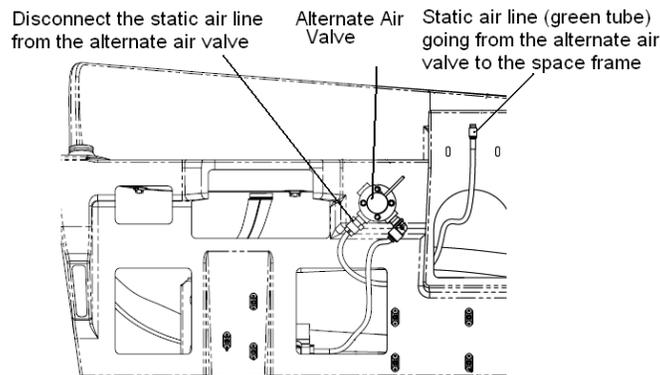

Figure 53-18 Location of the Alternate Air Valve
9. Connect the static line (green tube) that comes up from the space frame and goes to the alternate air valve on the under surface of the instrument panel console assembly. See Figure 53-18 for the location of the alternate air valve and the static line.